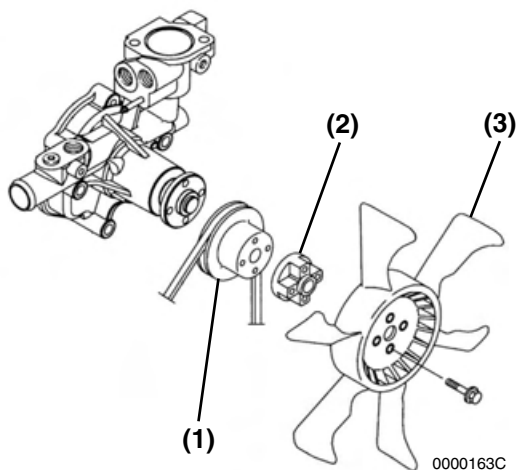

Figure 9-4
1. Remove the engine cooling fan guard (if equipped), engine cooling fan (**Figure 9-4, (3)**), spacer (**Figure 9-4, (2)**), engine coolant pump V-pulley (**Figure 9-4, (1)**) and V-belt.